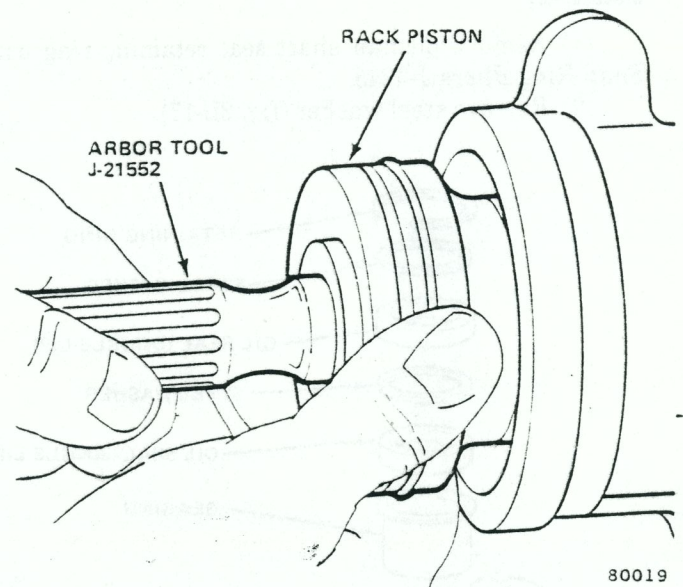

Fig. 2L-15 Rack Piston Removal/Installation
- (15) Remove rack piston from housing as follows:
- (c) Remove rack piston and arbor tool as assembly (fig. 2L-15).